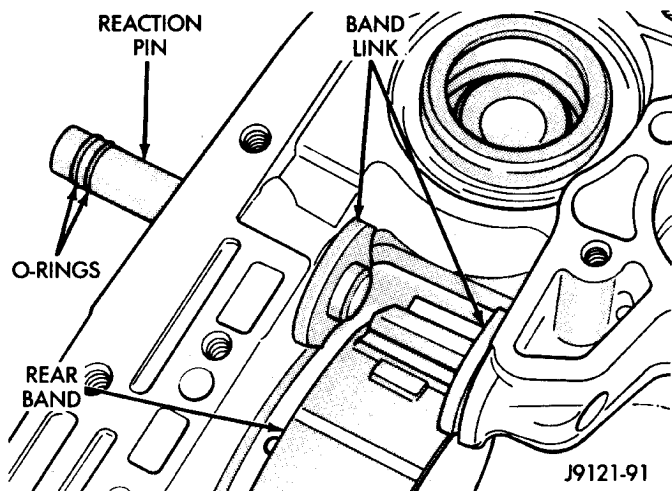

Fig. 131 Rear Band Reaction Pin
(6) Insert band reaction pin part way into case and band link (Fig. 131).